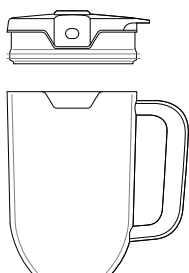

Figure 1
2. Secure the Jug Lid onto the blending Jug by aligning the notch in the Jug to the tab on the Jar Lid (Figure 1).